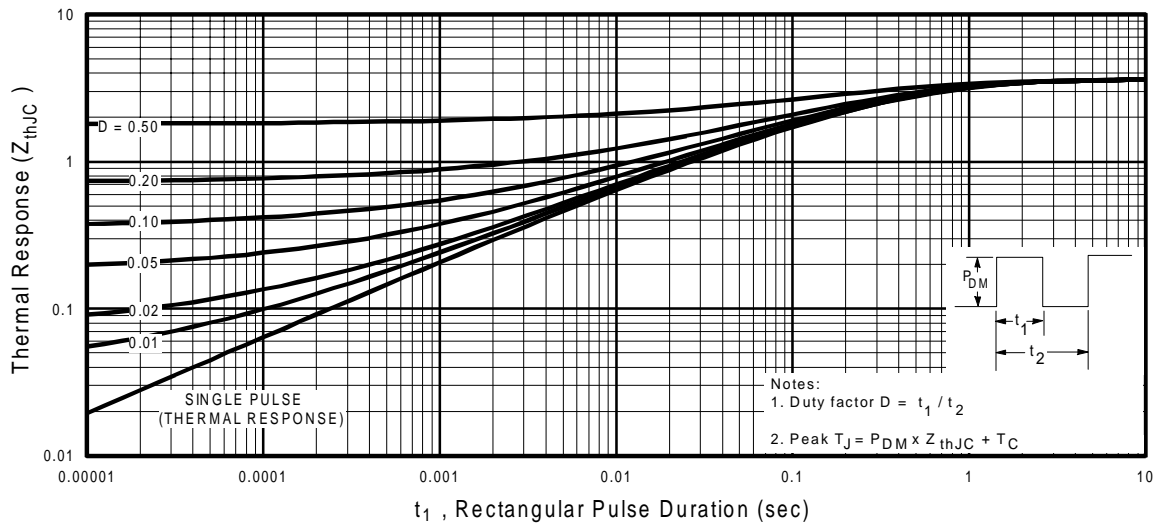

Fig 11. Maximum Effective Transient Thermal Impedance, Junction-to-Case
- ① Repetitive rating; pulse width limited by max. junction temperature. (See fig. 11)
- ② Starting $T_J = 25^\circ\text{C}$, $L = 62\text{mH}$